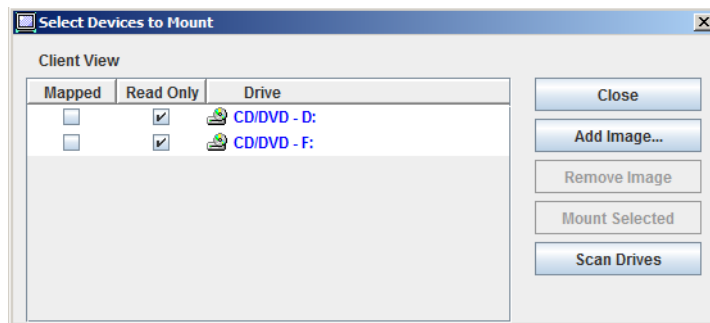

Figure 6-5 Adding an image
6. Click **Add Image** if you want to map an IMG or ISO image file, as shown in Figure 6-5.